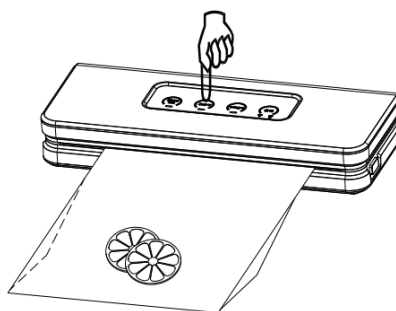

Figure 7
3. Press the Seal Button (as shown in Figure 7), and the appliance will complete the process automatically;